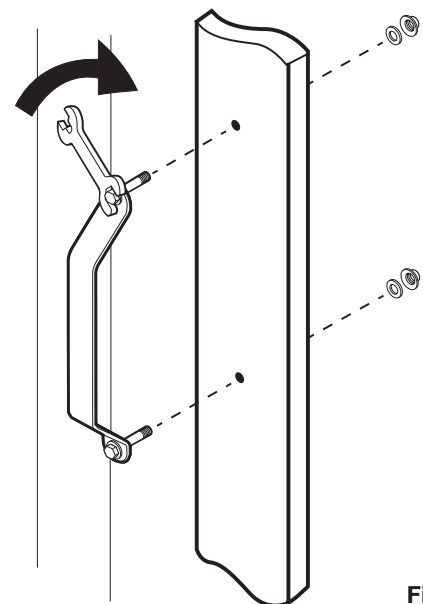

Figure 14
Measure up 52" from the bottom of the door and mark that location. Measure in 2 3/4" in from the edge of the stile and mark this spot. Drill a hole through the stile at the intersection of these 2 marks. Place the handle (P) on the door and insert one of the handle bolts into the top hole in the handle. Put the washer and nut onto the backside of the door and tighten the nut. Do not tighten fully at this point. Using a level to make sure the handle is plumb, mark the location of the bottom hole in the handle. Move the handle aside and drill the second hole through the stile. Put the remaining bolt through the hole in the handle. Put the washer and nut onto the backside of the door and tighten the nut. Use the wrenches provided to fully tighten the bolts and secure the handle. See Figure 14.
See Figure 14.